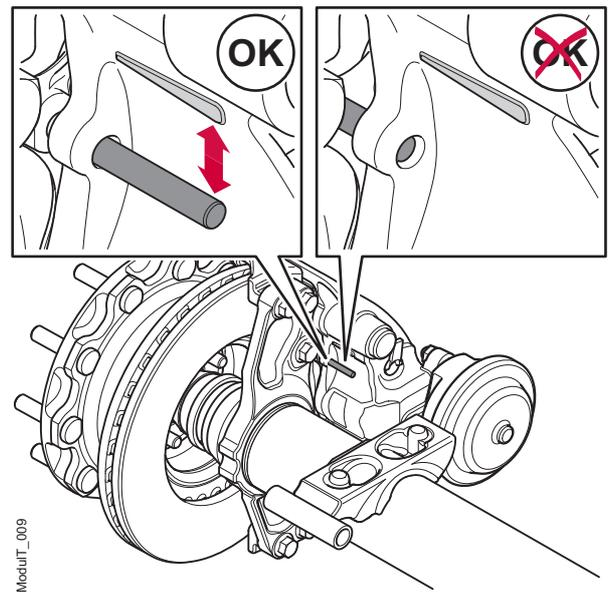

Figure 14. Inspection of the visual wear indicator
1. Inspect the position of the Visual Wear Indicator (VWI), as located and shown in figure 14. This check can be done with either the wheel fitted or removed.